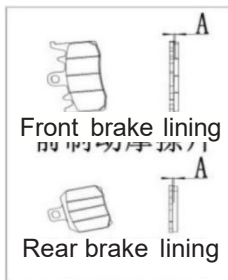

Figure 31 Inspection of Rear Brake Lining
10.2. Inspection of rear brake lining (Figure 31)